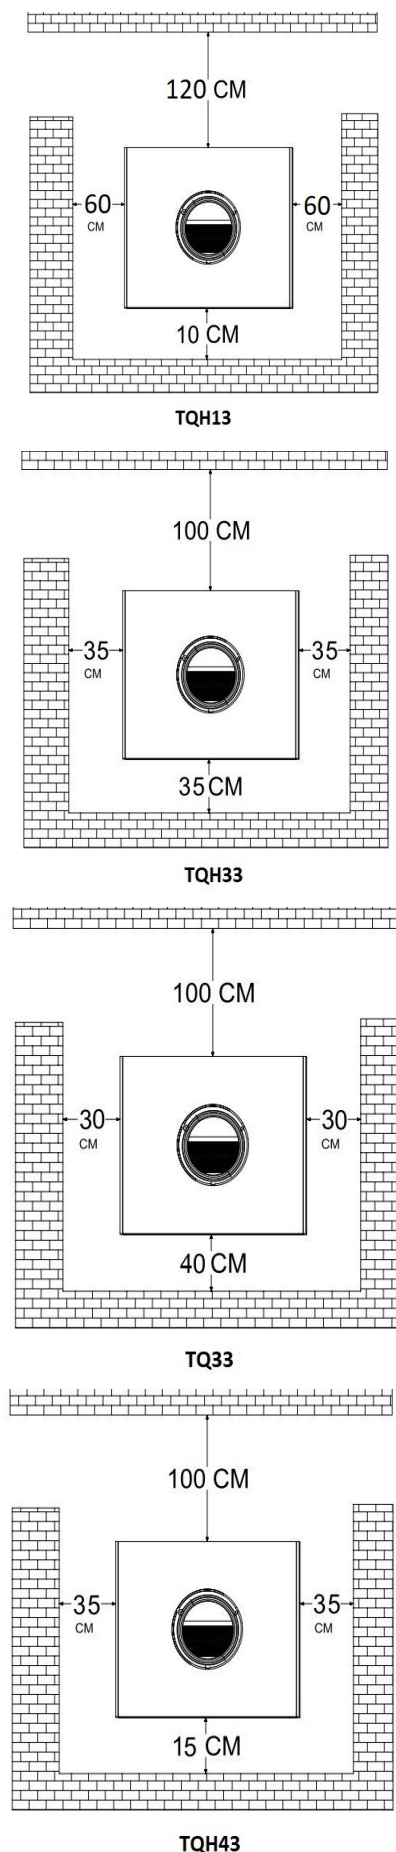

Fig. 14. Safety distances.
It is advisable to empty the ashtray when the appliance is not in use. To remove the ashes, drop them from the hearth into the ashtray through the grate with the tool provided. If your model has a blind grate, remove it before cleaning the ash. It is below the grate (fig. 14).
- When installing the stove, observe the necessary safety distances for the oven and chimney from combustible surfaces (wooden or papered walls, wooden floors...). Safety distances must be respected when the lining on walls or nearby areas may be damaged or deformed by temperature (varnish, paint, PVC...). Fig. 14